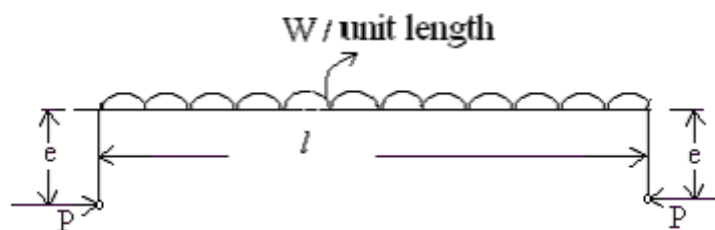

Figure 7
4. A pin jointed strut carries a UDL of intensity 'w' per unit length and an eccentric axial load P at an eccentricity of 'e' as shown in figure 7. Find the deflection at mid span of the strut. [16]